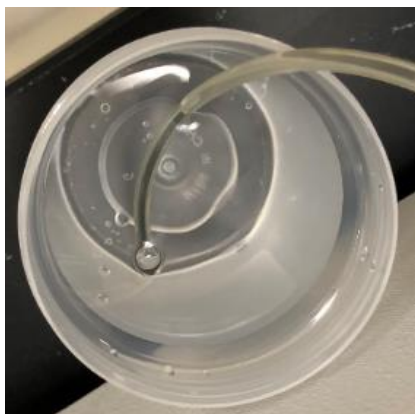

Figure 1: Example of the vent tubing end with bubbles releasing
- To check for pinched or obstruction in the vent lines, use the set-up in **Figure 1** and ensure that gas bubbles are released when the EGC is in operation.